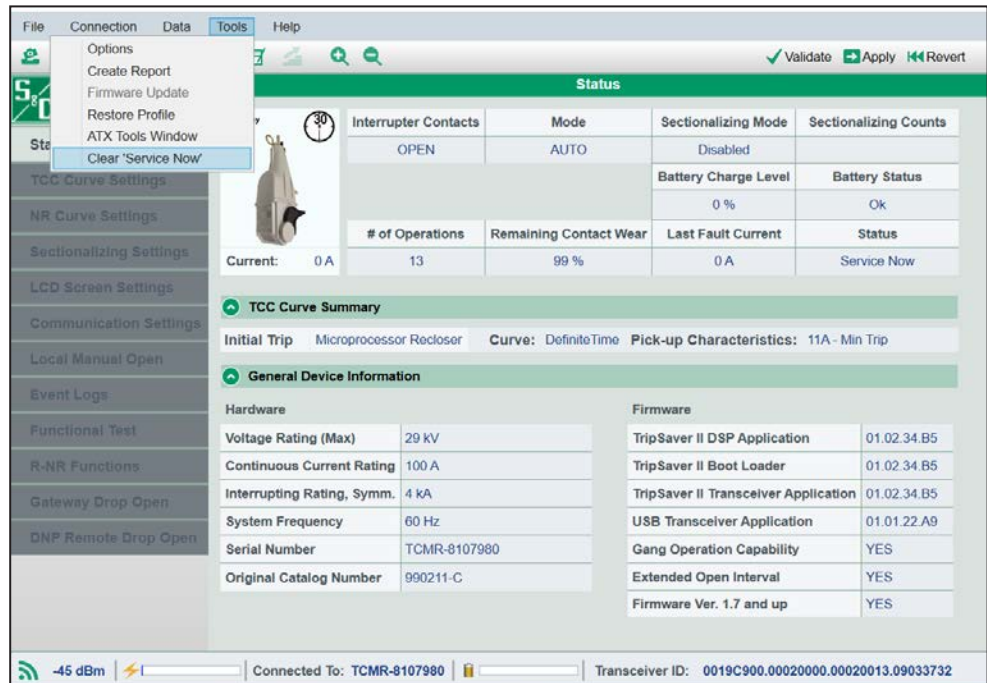

Figure 158. The Clear Service Now menu item on the Tools menu.
STEP 5. From the **Tools** menu, click on the **Clear ‘Service Now’** menu item. See Figure 158.